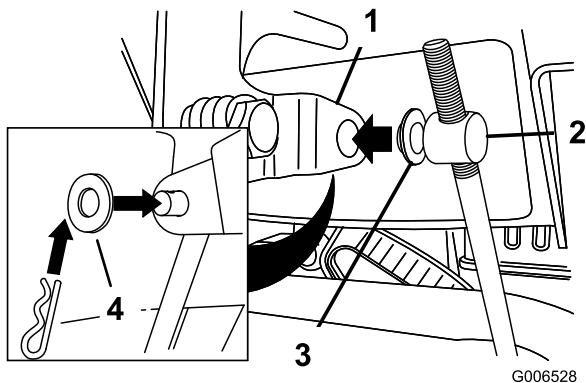

Figure 12
3. Remove the hairpin cotter and the outer washer from the trunnion on the upper end of the speed-control rod (Figure 12).
Note: To make installation easier, leave the flat washer on the trunnion (Figure 12).
6. Lift up the speed-control rod and insert the trunnion into the hole in the speed-selector lever (Figure 12).
- B. Disconnect the trunnion from the speed-selector lever (Figure 12).
- C. Turn the trunnion downward (clockwise) on the speed-control rod (Figure 12).
- D. Connect the trunnion to the speed-selector lever (Figure 12).
- C. Turn the trunnion upward (counterclockwise) on the speed-control rod (Figure 12).